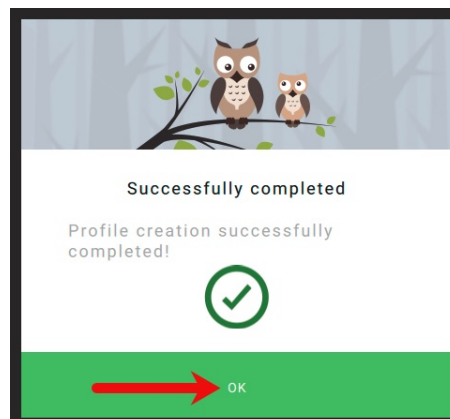

Figure 64. Profile Complete (I like the owls 😊)
After clicking “OK” on the completion notice (Figure 64, red arrow), the first quality control (QC) tool appears (Figure 65, horizontal red arrow). With this tool, you see for example that at the 50th percentile of the patches, the dE(2000) is 1.5 and the green squares in Figure 65 are at or below dE 1.5. If you move the slider to 100%, you will see the dE of the patch with the highest dE.